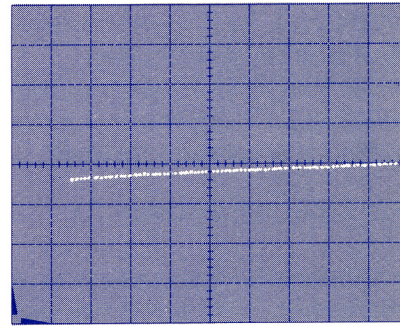

Figure 1-2. Load Regulation Test. Trace was obtained by resetting the OUTPUT VOLTAGE COMPARISON control so that trace aligns with center graticule line.
- 4) Obtain trace over full range — Press STEP FAMILY REP button in. Turn NUMBER OF STEPS fully clockwise (providing approximately 95 steps). See Figure 1-2. **13 23**